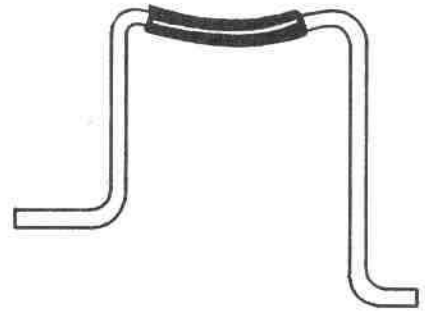

Figure 16
- (✓) Connect one line cord lead to tie point DD1 (NS) and the other to DD3 (NS).
- (✓) Refer to Pictorial 4 and connect one lead from each capacitor to the grounded tie point connection DD2 (S).
- (✓) Connect one of the two extra leads to tie point connection DD1 (S) and the other to DD3 (S).
- (✓) Bend the #14 wire to conform with the shape in Figure 16. Use the illustration for the template.